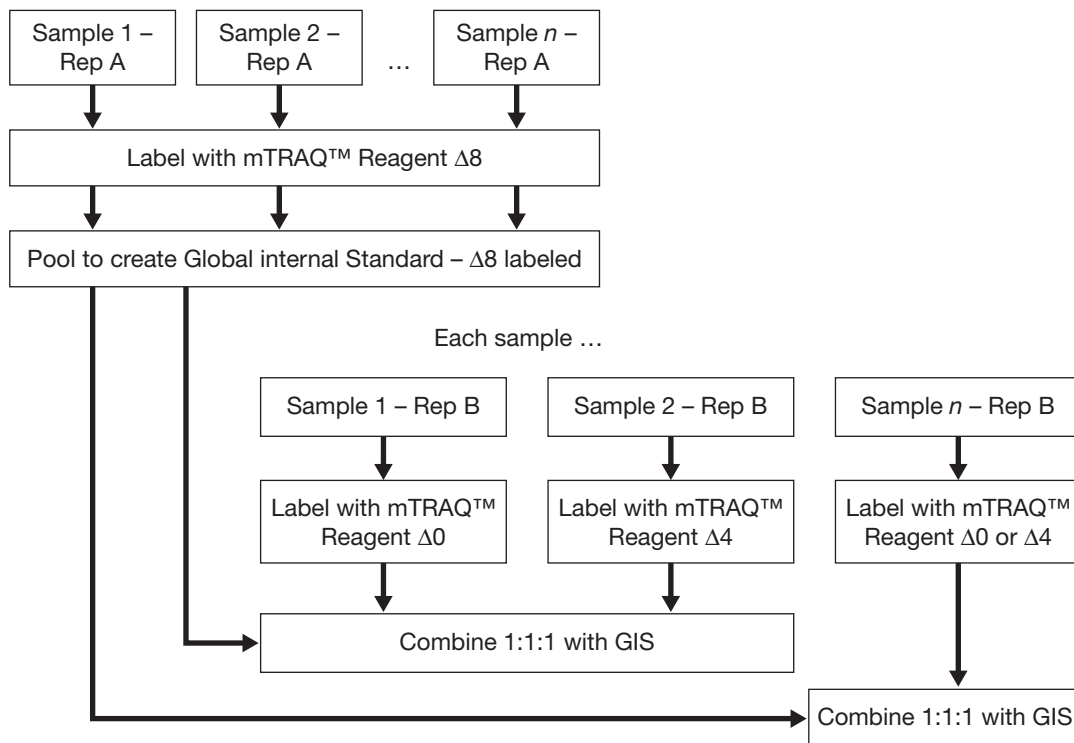

Figure 4 Triplex GIS workflow – creation of analytical mixtures with a global internal standard
5. Pool all $\Delta 8$ -labeled Replicate A digests to create the Global Internal Standard Digest Mixture (see Figure 4 on page 21).
In the procedure presented in this chapter, the mTRAQ Reagent $\Delta 8$ -labeled global internal standard is created by labeling the individual Replicate A sample digests, then pooling the labeled samples to create the GIS. See Figure 4 on page 21.